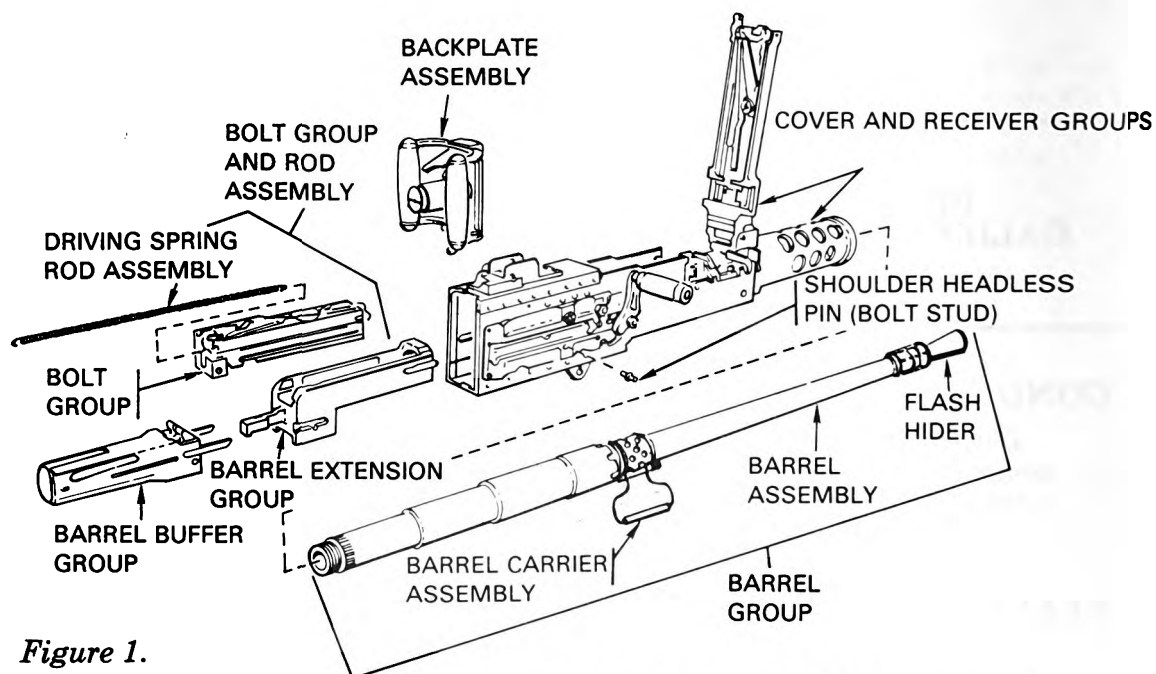

Figure 1.
1. **Disassembly** (figure 1).